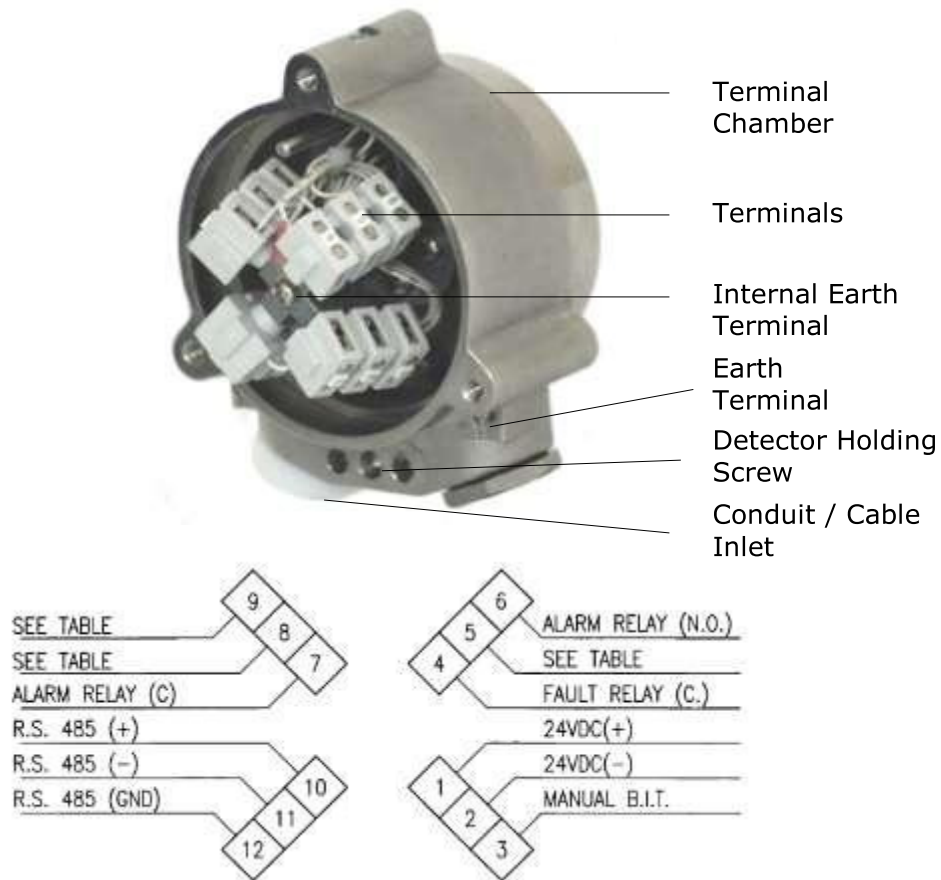

Figure 6: Detector with Cover Removed
This section describes how to connect the electric cabling to the detector (Figure 6).
- 5 Connect the wires to the required terminals on the Terminal Board according to the wiring diagram (Figure 6) and Table 15.
- 8 Check the wires for secure mechanical connection and press them neatly against the terminal to prevent them from interfering while closing the back cover (Figure 6).